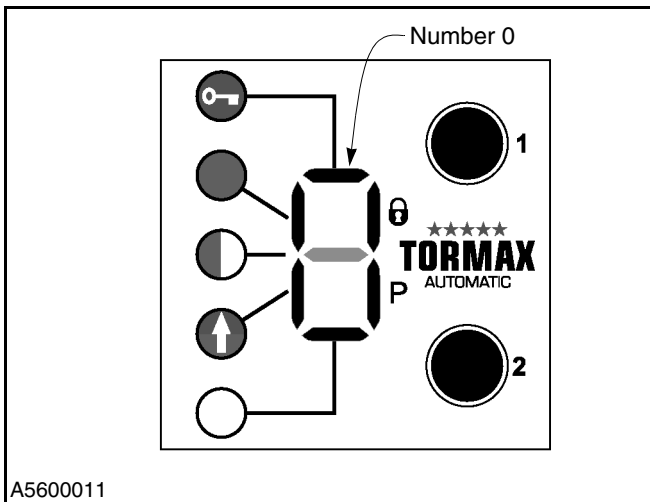

Figure 24
1. After pressing Key 2 to confirm the letter C, a zero appears for entering the access code. (See Figure 24.)